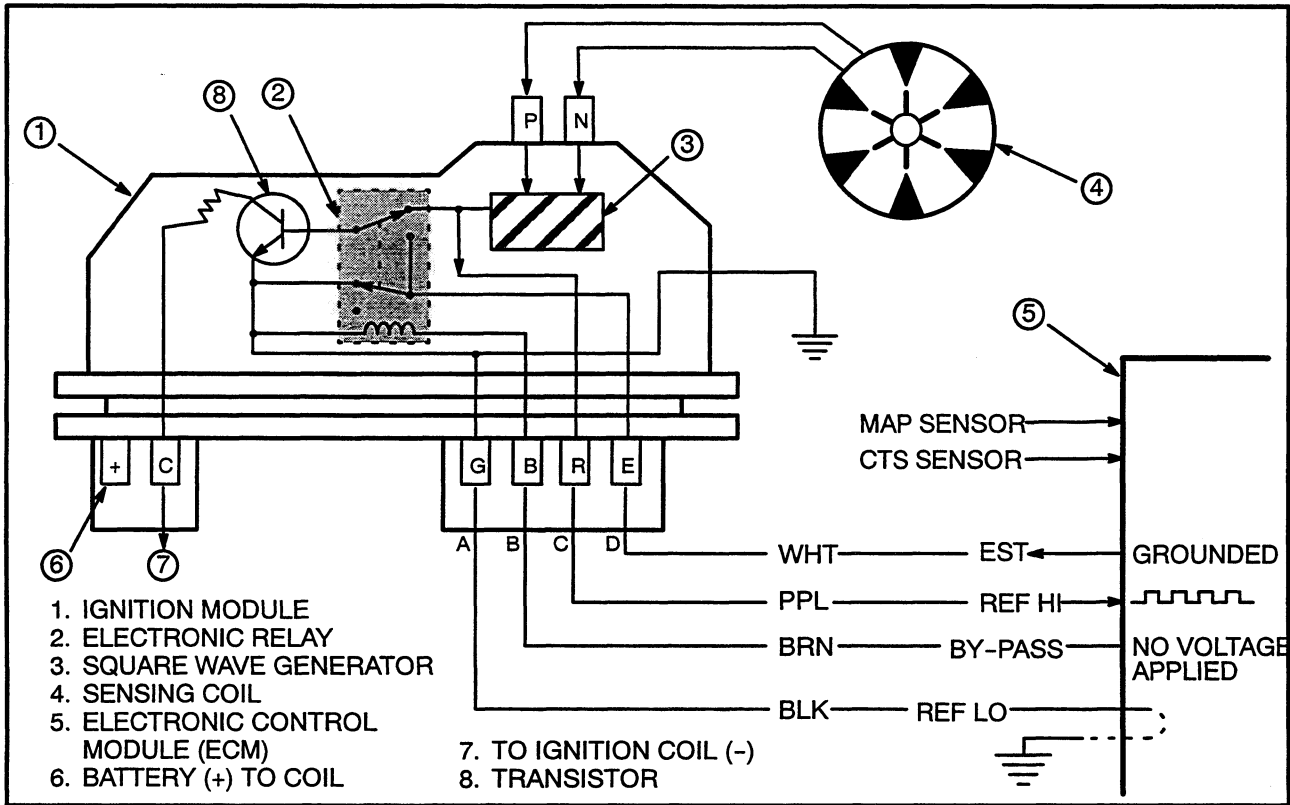
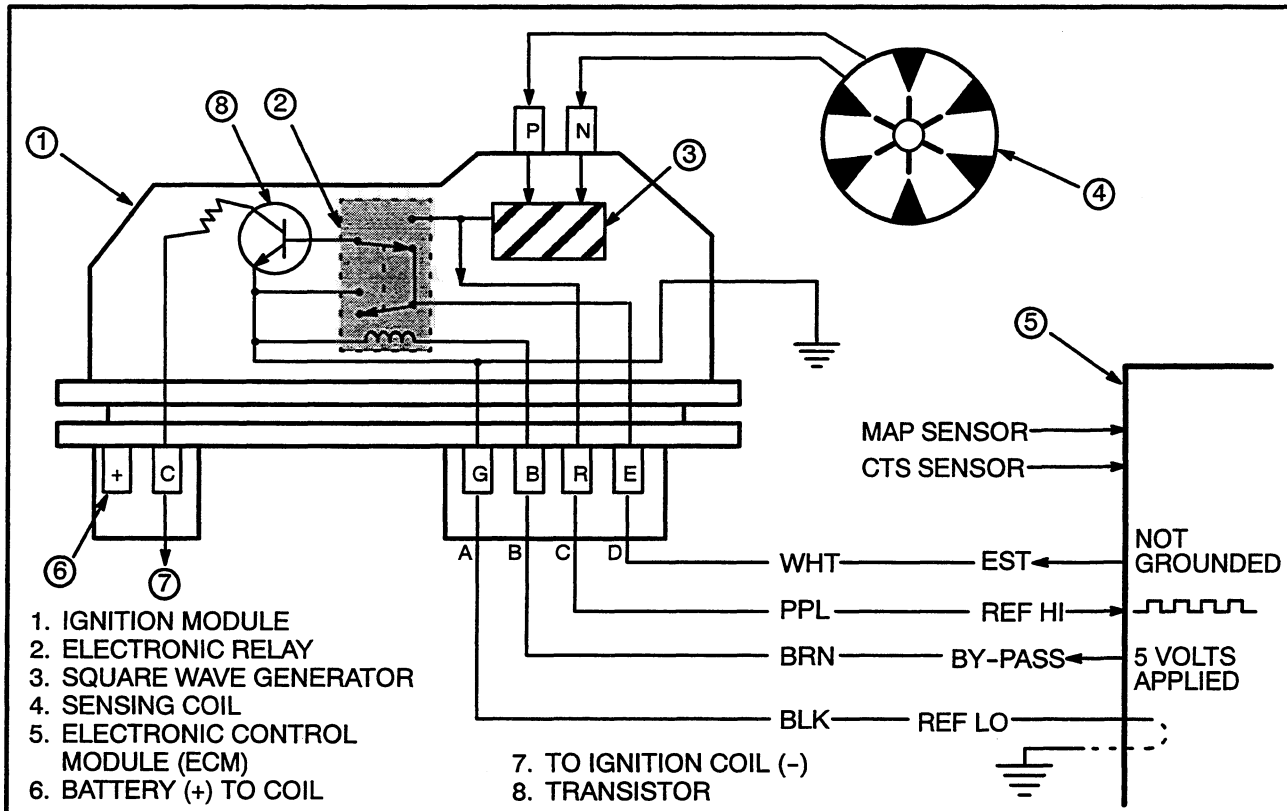

FIGURE 9. IGNITION MODULE WHEN ENGINE IS BEING STARTED
FIGURE 10. IGNITION MODULE WHEN ENGINE IS RUNNING
### Ignition Module (See FIGURE 9.)
The ignition module is a solid-state electronic device that operates like a fast switch except that it does not have any moving or mechanical parts. See FIGURE 9. and FIGURE 10. Small electrical pulses from the sensing coil of the pulse generator go to the ignition module.
See FIGURE 9. When the engine is cranked by the starter, the electronic relay (2) is in the deenergized position. The sensing coil is connected through the square wave generator (3) to the base of the transistor (8).
See FIGURE 10. When the engine speed is greater than approximately 400 rpm, the ECM determines that the engine is running and applies 5 volts on the BY-PASS wire to the ignition module. This voltage energizes the electronic relay (2) and makes the following changes: The EST wire is not grounded and is now connected to the base of the transistor (8). The sensing coil (4) is disconnected from the base of the transistor (8).